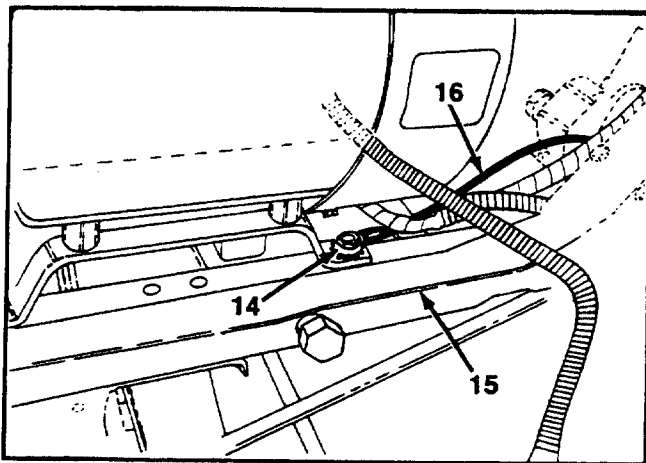

FIGURE 11.
11. Remove the hex nut and star washer located on the left hand side of chassis, holding ground wire. See figure 11.